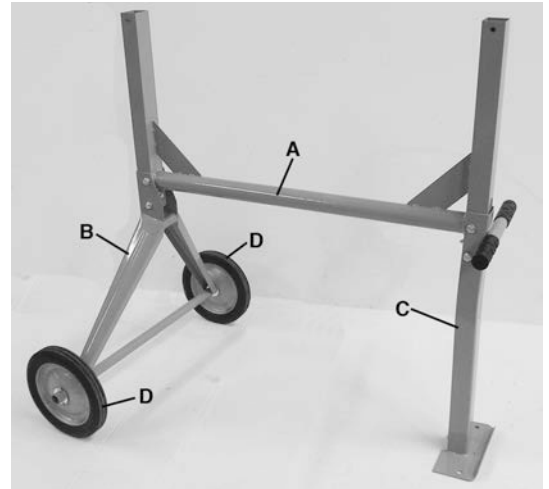

FIGURE 3
1. Place the horizontal support (A) Fig.3 into the wheel bracket (B) so that the bolt holes line up.
3. Place support bracket (C) Fig.3 over the horizontal support (A) so that the bolt holes line up.
6. To install the wheels (D) Fig.3. First slide 2 large washers onto each wheel bracket shafts, then slide a wheel (B) Fig.5, another washer (C), then insert a cotter pin (D) into the bracket's axle hole and split the ends. Repeat for the second wheel.